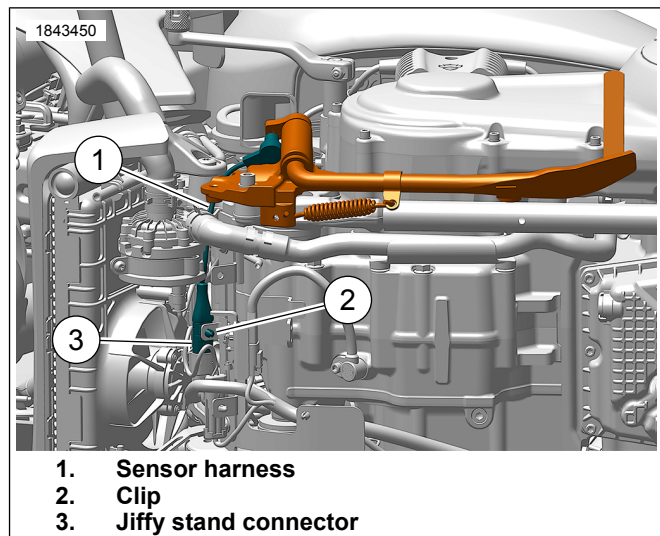

Figure 3. Harness Install
4. See Figure 3. Route harness (1) to jiffy stand connector (3).
5. Secure harness connector with clip (2).